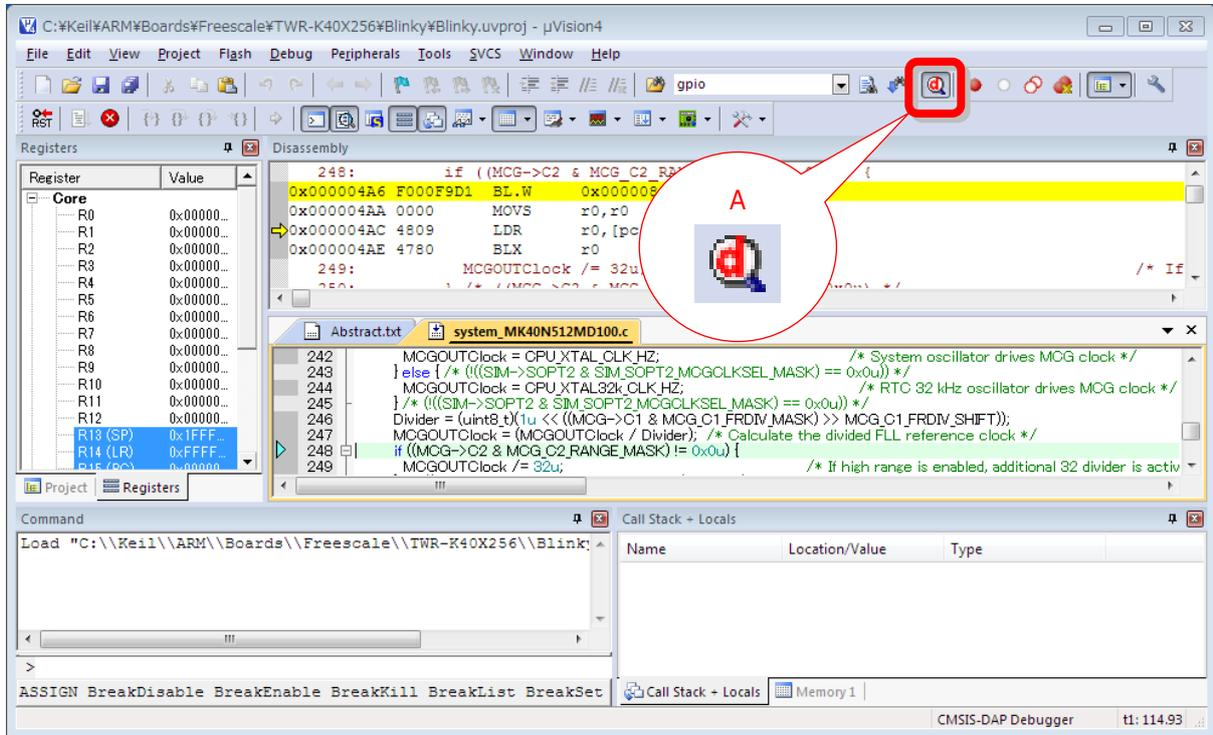

Figure 9
Pressing the "A" button as shown in Figure 9 starts download of a binary file and a debugging session.
- Press the "A" button as shown in Figure 9 to start a debugging session.